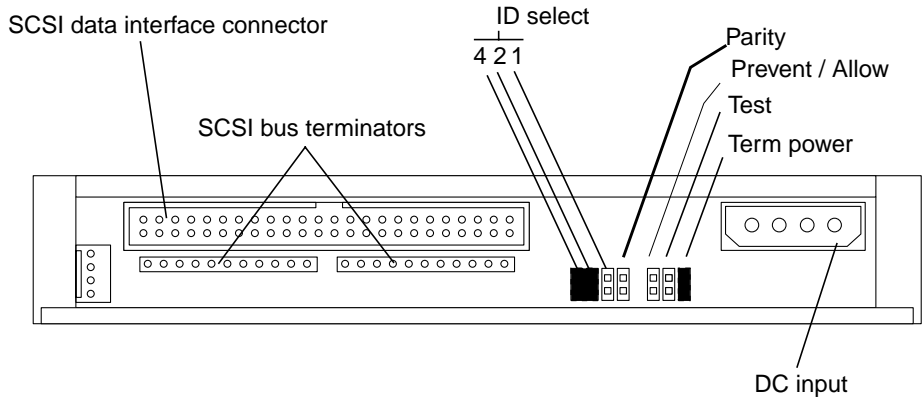

FIGURE 9-6 SunCD 2Plus Rear View and Jumper Settings
- a. For the SunCD 2Plus CD-ROM drive: at pins ID4, ID2, and Term power (FIGURE 9-6).